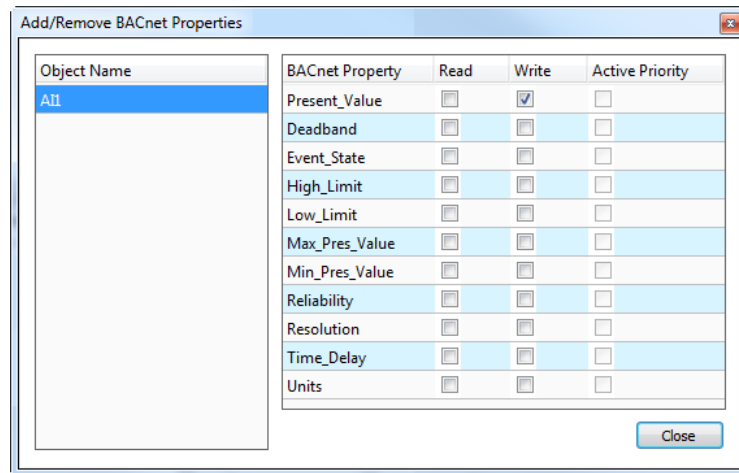

Figure 161: Dialog for adding/removing BACnet properties.
2. Right-click on the data point and select **Add/Remove BACnet properties ...** from the context menu. The dialog appears as shown in Figure 161.